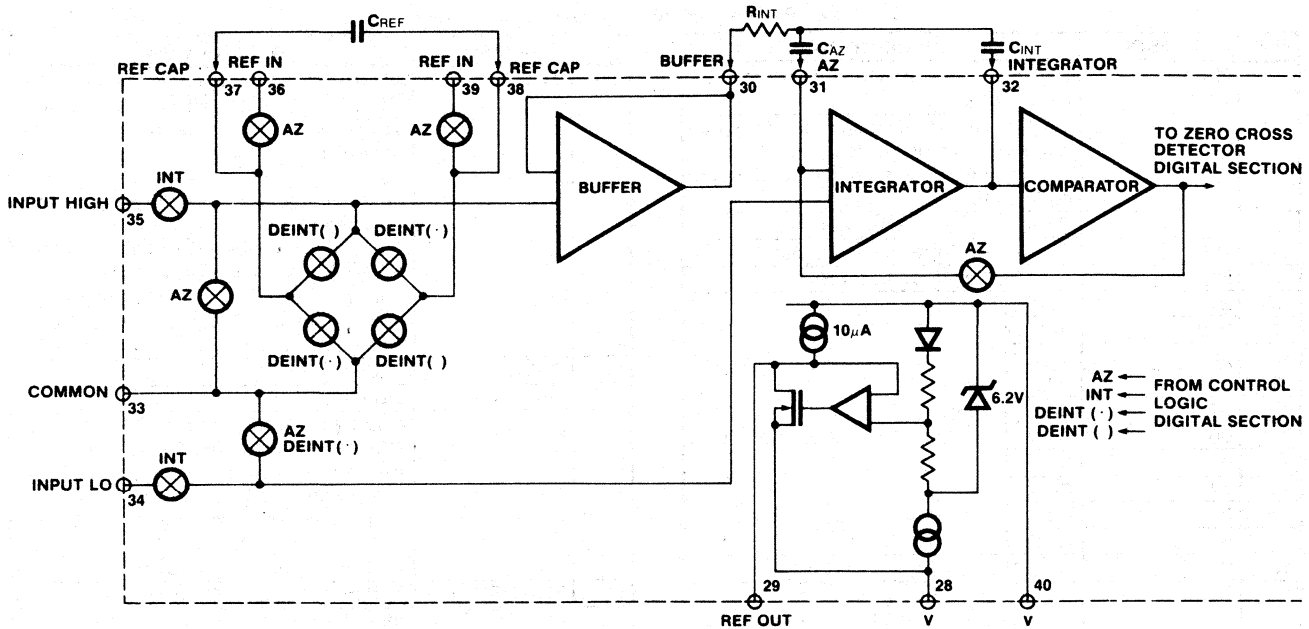
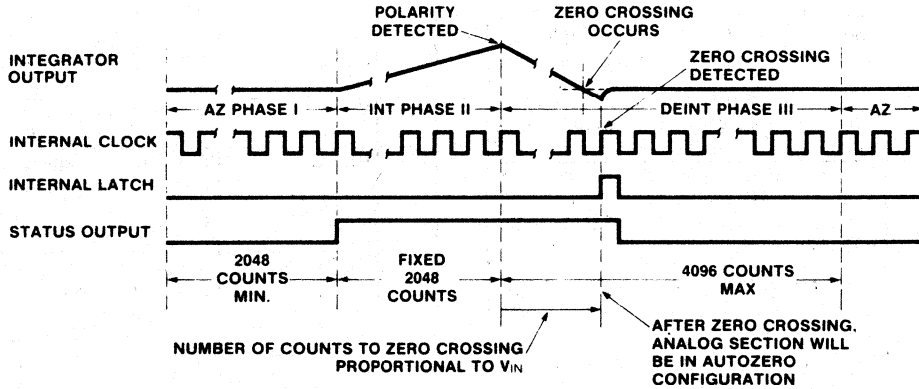

Figure 2: Analog Section
Figure 3: Conversion Timing
Figure 2 shows the equivalent circuit of the Analog Section of the ADC-7109. When the RUN/HOLD input is left open or connected to V+, the circuit will perform conversions at a rate determined by the clock frequency (8192 clock periods per cycle). Each measurement cycle is divided into three phases as shown in Figure 3. They are (1) Auto-Zero (AZ), (2) Signal Integrate (INT) and (3) Deintegrate (DE).
During a conversion cycle, the STATUS output goes high at the beginning of Signal Integrate (Phase II), and goes low one-half clock period after new data from the conversion has been stored in the output latches. See Figure 3 for details of this timing. This signal may be used as a "data valid" flag (data never changes while STATUS is low) to drive interrupts, or for monitoring the status of the converter.
When the RUN/HOLD input is connected to V⁺ or left open (this input has a pullup resistor to ensure a high level when the pin is left open), the circuit will continuously perform conversion cycles, updating the output latches at the end of every Deintegrate (Phase III) portion of the conversion cycle (See Figure 3). In this mode of operation, the conversion cycle will be performed in 8192 clock periods, regardless of the resulting value.